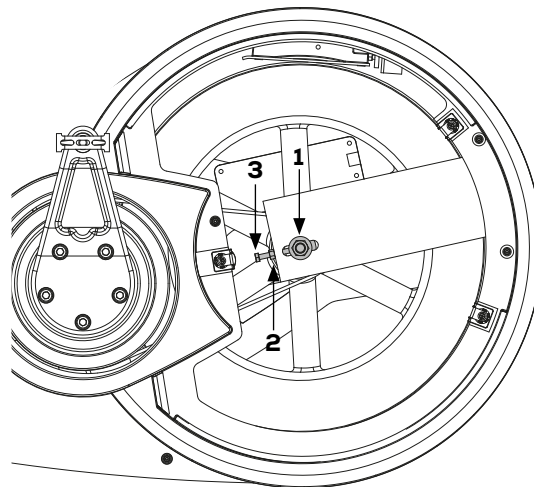

Figure 24
2) Loosen the bolts (1) on both sides of the cycle with a 19 mm wrench, see figure 24.
3) Loosen the nuts (2) on the counter bolt on both sides of the cycle using a 10 mm wrench, see figure 24.
4) Use a 10 mm wrench to tighten the counter bolts (3). On the right side, the tool should be pulled downwards and on the left side upwards to tighten.
6) Tighten the counter bolt (2) on both sides of the cycle again.
7) And tighten the bolt(1) again on both sides of the cycle.